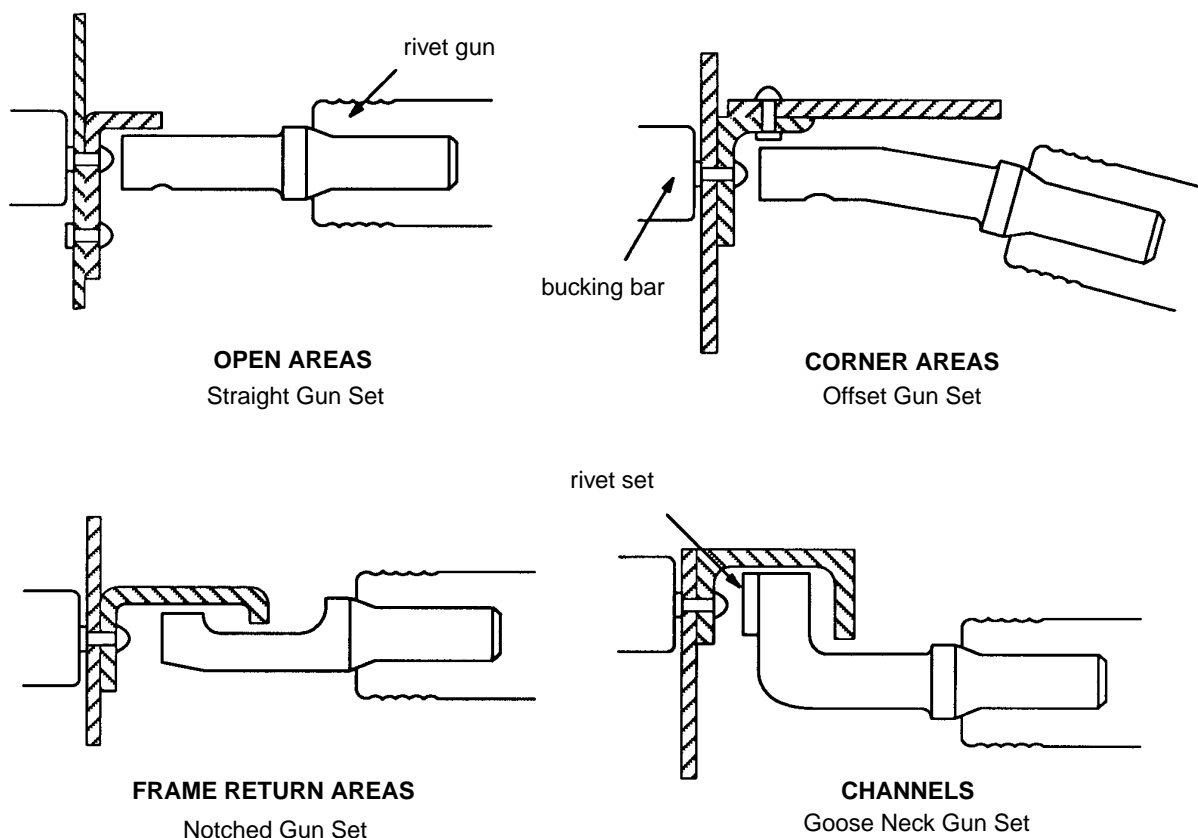

Figure 14 - Percussion Riveting Method for Hi-Shear Rivets
5.6.3 Swage collars onto Hi-Shear rivets using the percussion riveting method as follows (see Figure 14):